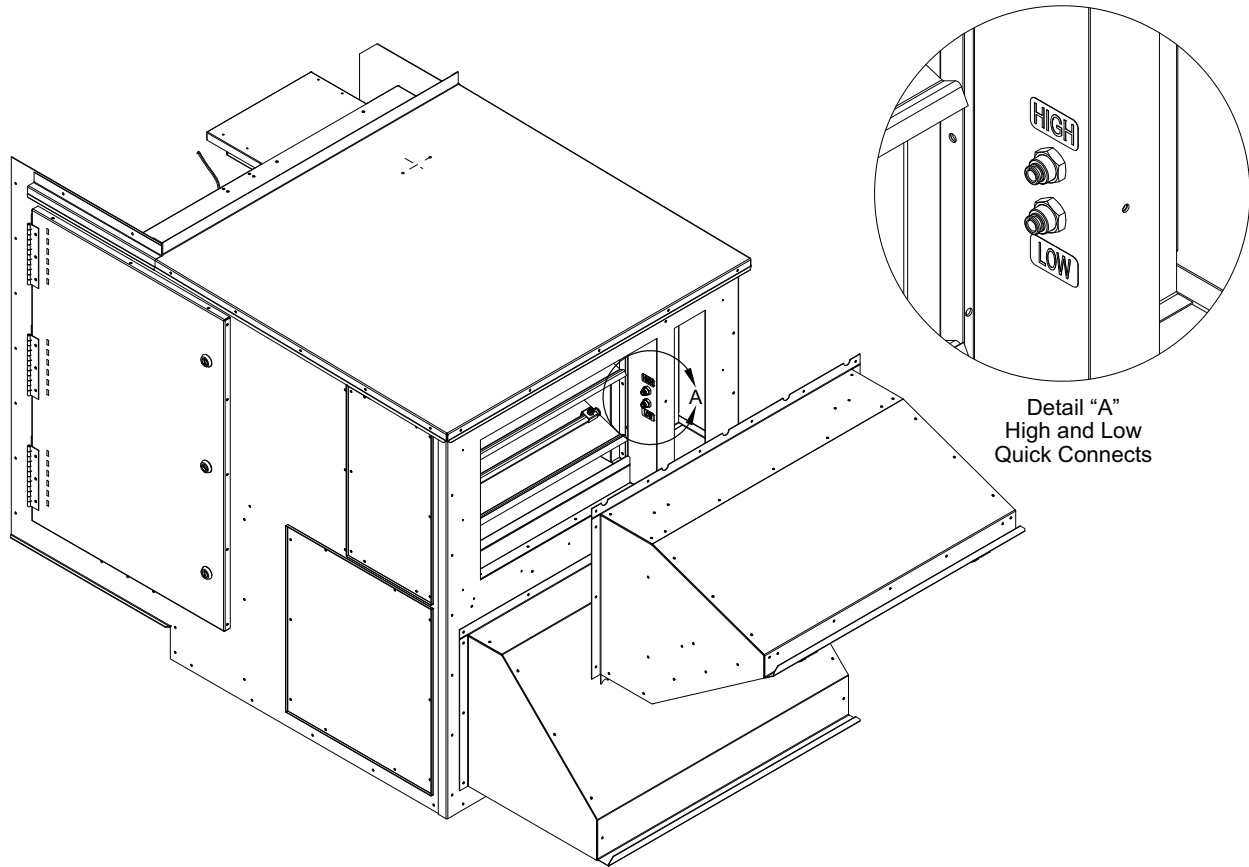

Fig. 53 — Outside Air Hood Removal
- Remove the hood by removing the self-sealing screws along the perimeter of the hood. See Fig. 53.